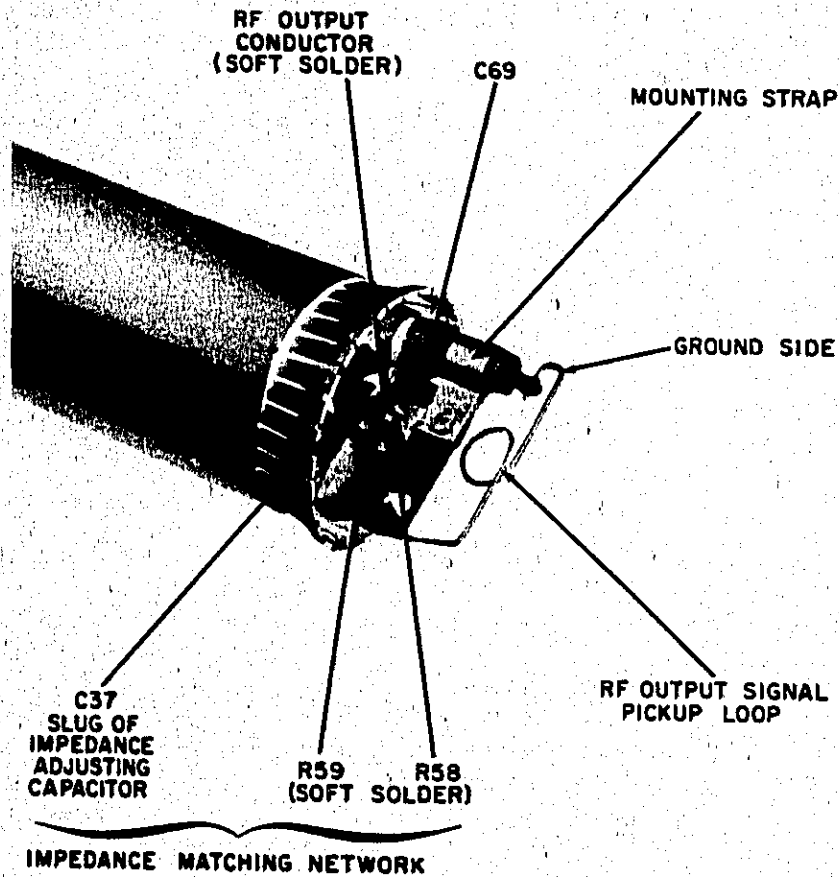

Figure 5-26. Attenuator Probe, Showing Pickup Loop and Impedance Matching Network
**5-77. PROBE REPAIR.** Capacitor C69 (Figure 5-26) is held in place by a mounting strap and a setscrew. To replace C69, unsolder the pickup loop at the capacitor end (ground slide of loop), loosen the setscrew, and slide the capacitor out of the clamp. Replace by reversing this procedure. The capacitor must be firmly seated in the hole in the end of the probe before tightening the setscrew. Be careful when tightening the setscrew; the capacitor ground lead can be cut in two if the setscrew is tightened excessively.